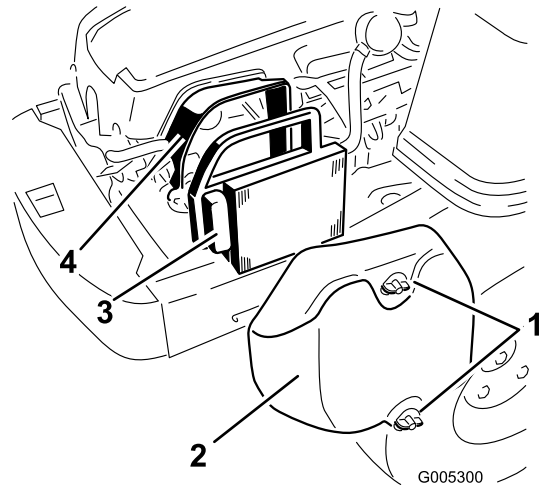

Figure 21
1. Remove the air cleaner cover (Figure 21).
2. Remove the air cleaner element with the integral rubber seal (Figure 21).
5. Install the air cleaner element with the pleated side “out” and seat the rubber seal onto the edges of the air cleaner base (Figure 21).
6. Reinstall the air cleaner cover and secure with the two knobs (Figure 21).